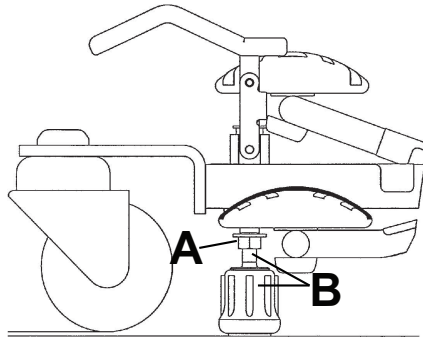

Figure 3 – Brake adjustment
1. Using a 1/2" combination wrench, loosen the top jam nut (A) on the brake foot assembly (Figure 3).